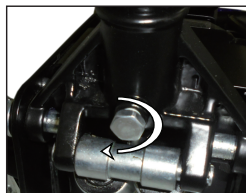

fig 4.
4. Fasten the locking screw in the handle base to ensure the handle assembly is safely secured (fig.4).